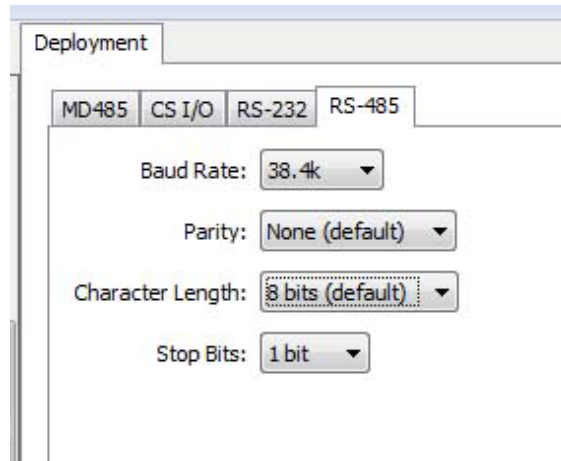

FIGURE C-3. MD485 RS-485 tab
- Click the **RS-485** tab. Set **Baud Rate** to *38.4k*. Set **Parity** to *None*. Set **Character Length** to *8 bits*. Set **Stop Bits** to *1 bit* (FIGURE C-3).